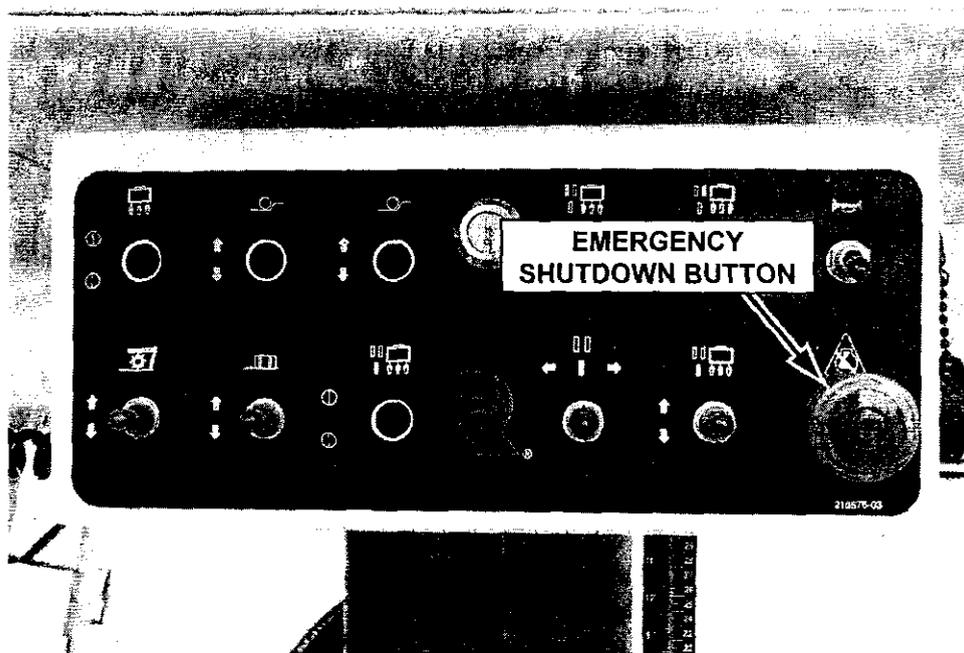

FIGURE 1
- Emergency shut down buttons will immediately shut down the engine when one is pushed. These buttons are located on the operator's console as well as on all the ground control boxes. The engine will not start until all the emergency shutdown buttons have been reset (figure 1).